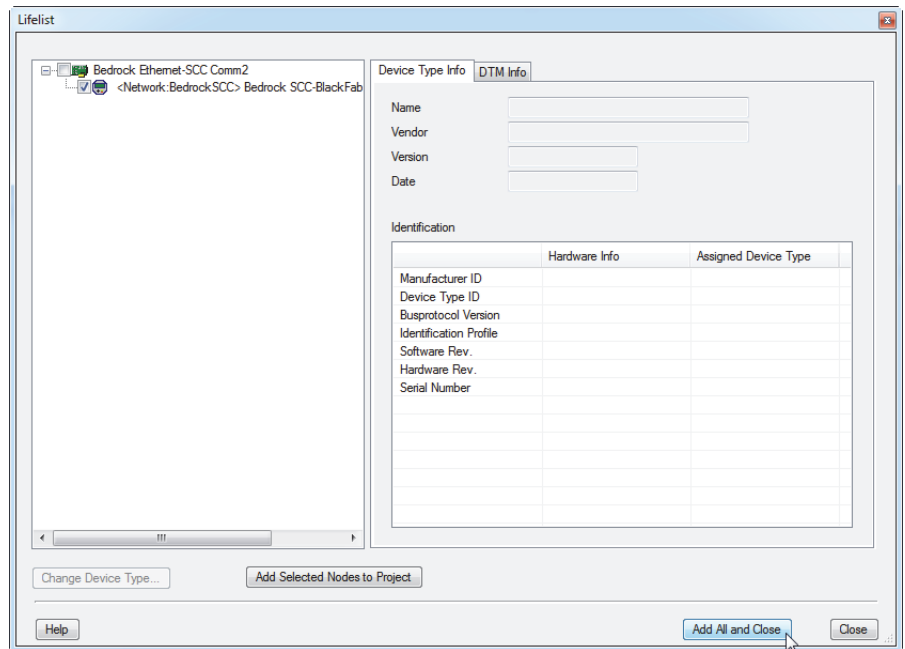

Figure 11-7 Adding Gateway DTMs After Scan
8. If you elected to automatically add a DTM in the previous step, a list of the DTMs that were found will be displayed as shown in Figure 11-7. Use the checkboxes to select the DTM(s) you would like to add to your project and then do one of the following: